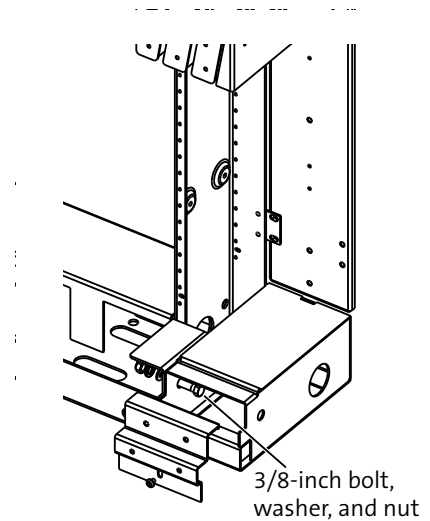

Figure 4
Step 1: Remove front cover from base filler and equipment rack base. Attach base filler to equipment rack base with 3/8-in hardware provided. Reattach covers (Figure 4).